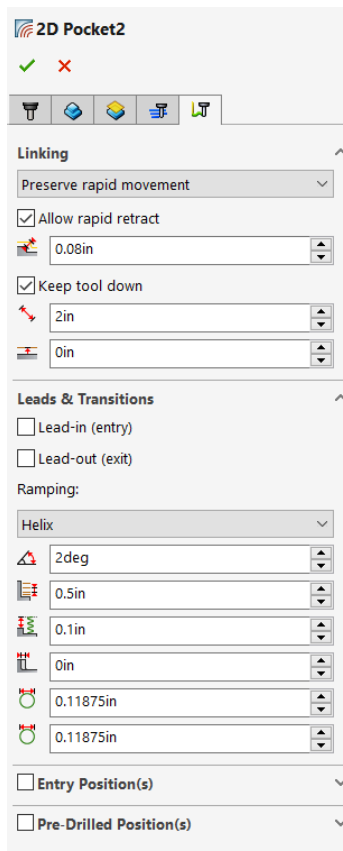

Figure 18: Linking and Ramping Settings
- Ramping - Helix (refer fig 18)